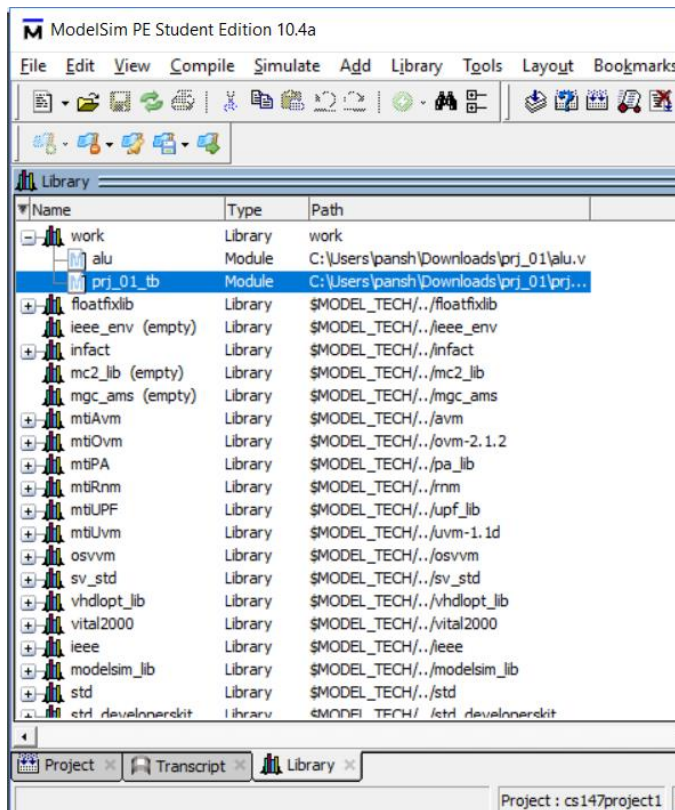
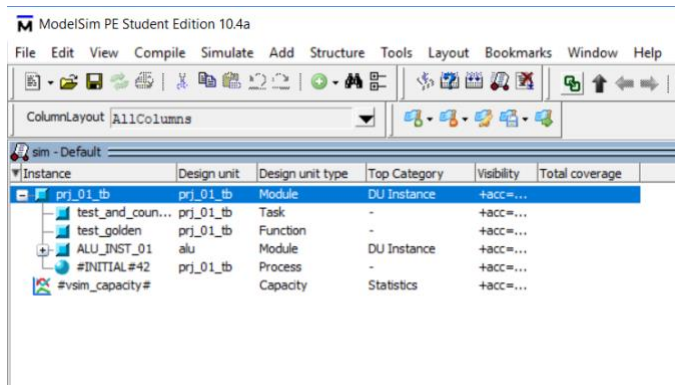

Figure 2.6 Test bench
Figure 2.7 Sim
6) Double click on *prj_01_tb* in the work directory of library tab (Figure 2.6). It will produce a tab called sim (Figure 2.7).